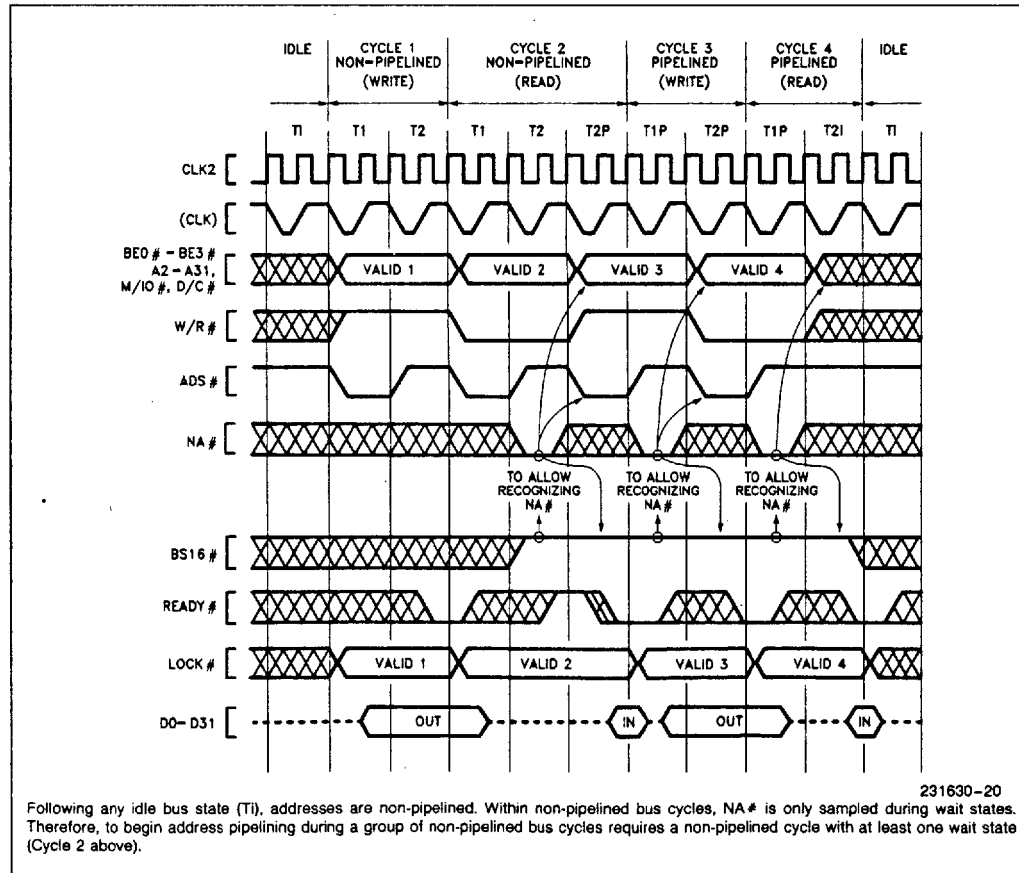
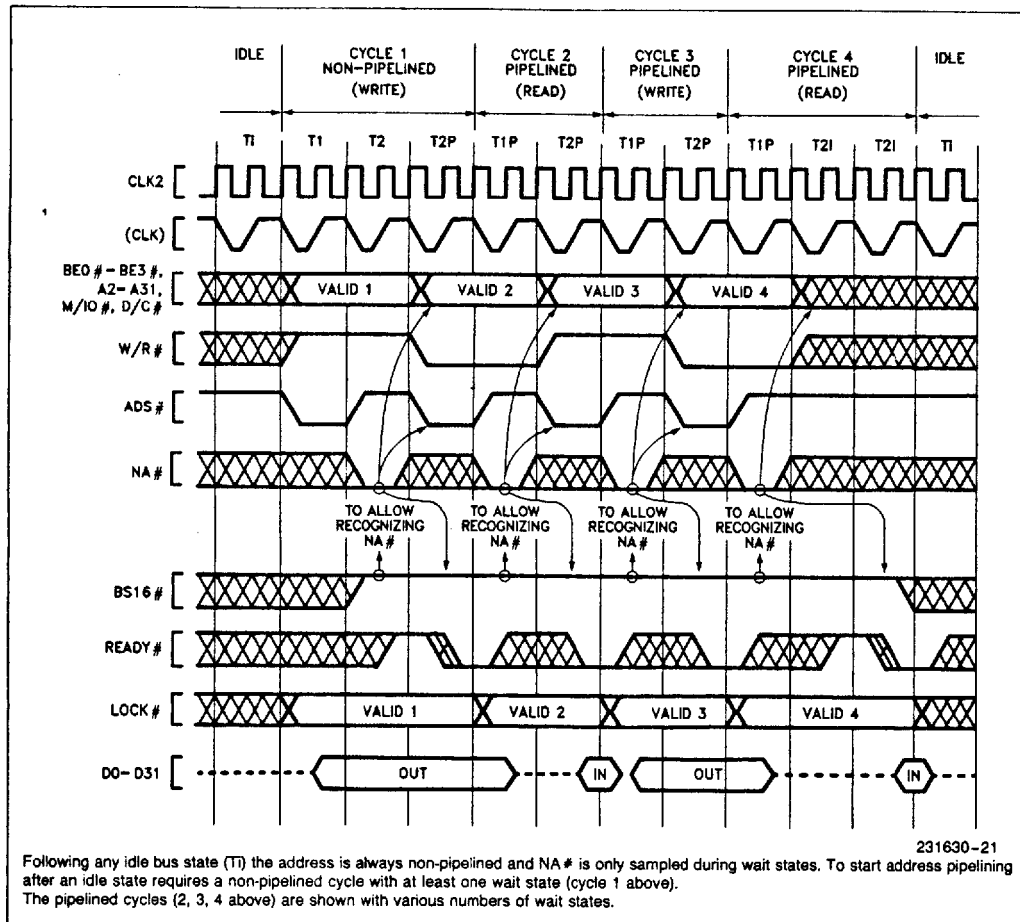
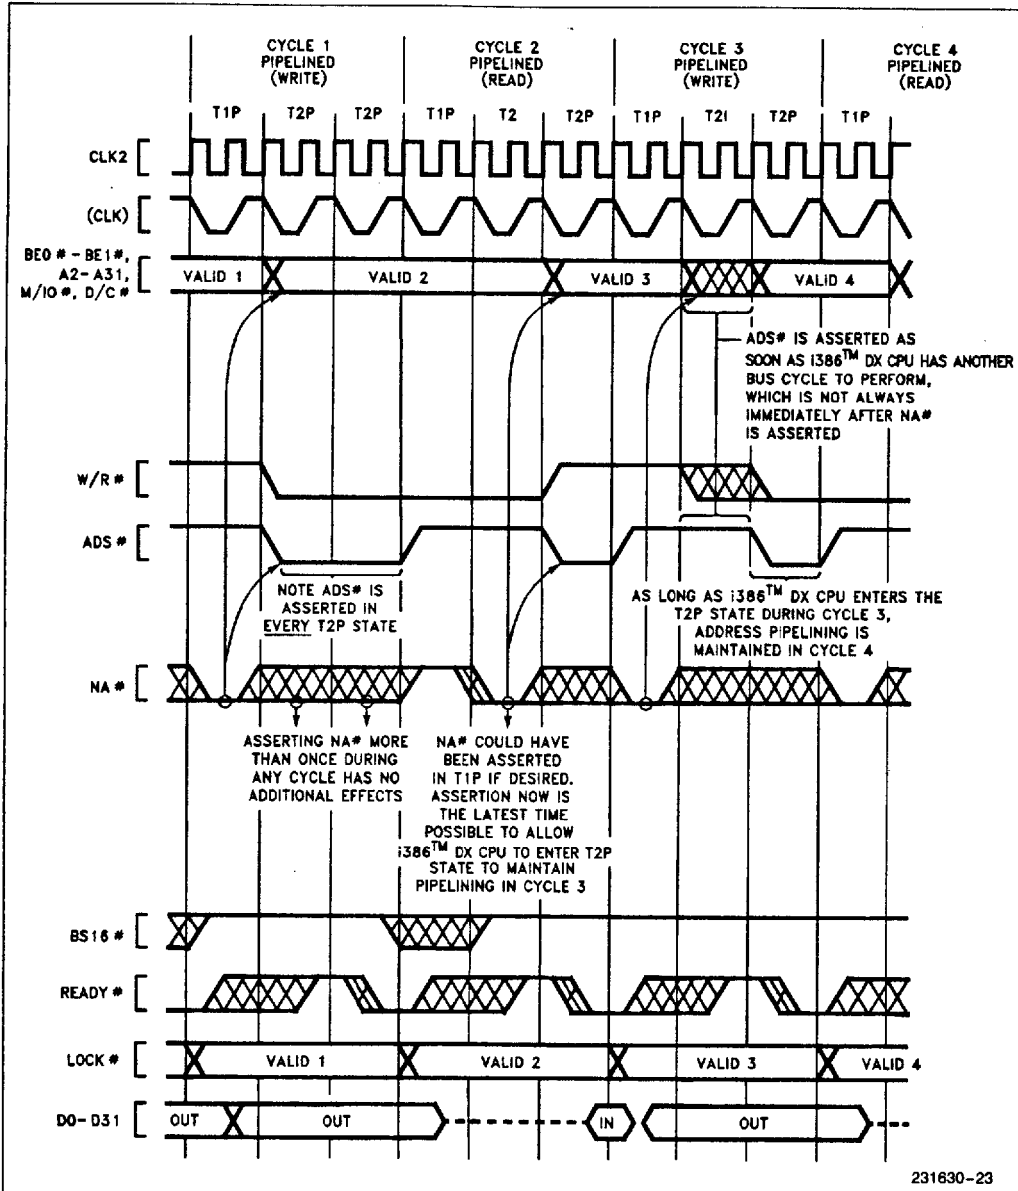

Figure 5-16. Transitioning to Pipelined Address During Burst of Bus Cycles
Figure 5-17. Fastest Transition to Pipelined Address Following Idle Bus State
Figure 5-19. Details of Address Pipelining During Cycles with Wait States
Once a bus cycle is in progress and the current address has been valid for at least one entire bus state, the NA# input is sampled at the end of every phase one until the bus cycle is acknowledged. During non-pipelined bus cycles, therefore, NA# is sampled at the end of phase one in every T2. An example is Cycle 2 in Figure 5-16, during which NA# is sampled at the end of phase one of every T2 (it was asserted once during the first T2 and has no further effect during that bus cycle).
- 1) For NA# to be sampled asserted, BS16# must be negated at that sampling window (see Figure 5-16 Cycles 2 through 4, and Figure 5-17 Cycles 1 through 4). If NA# and BS16# are both sampled asserted during the last T2 period of a bus cycle, BS16# asserted has priority. Therefore, if both are asserted, the current bus size is taken to be 16 bits and the next address is not pipelined.
- 2) The next address may appear as early as the bus state after NA# was sampled asserted (see Figures 5-16 or 5-17). In that case, state T2P is entered immediately. However, when there is not an internal bus request already pending, the next address will not be available immediately after NA# is asserted and T2I is entered instead of T2P (see Figure 5-19 Cycle 3). Provided the current bus cycle isn't yet acknowledged by READY# asserted, T2P will be entered as soon as the Intel386 DX does drive the next address. External hardware should therefore observe the ADS# output as confirmation the next address is actually being driven on the bus.
must assume the current bus size is 32 bits. Therefore if NA# is sampled asserted within a bus cycle, BS16# must be negated thereafter in that bus cycle (see Figures 5-16, 5-17, 5-19). Consequently, do not assert NA# during bus cycles which must have BS16# driven asserted. See 5.4.3.6 Dynamic Bus Sizing with Pipelined Address.
- 4) Any address which is validated by a pulse on the Intel386 DX ADS# output will remain stable on the address pins for at least two processor clock periods. The Intel386 DX cannot produce a new address more frequently than every two processor clock periods (see Figures 5-16, 5-17, 5-19).
- 5) Only the address and bus cycle definition of the very next bus cycle is available. The pipelining capability cannot look further than one bus cycle ahead (see Figure 5-19 Cycle 1).
The transition to pipelined address is shown functionally by Figure 5-17 Cycle 1. Note that Cycle 1 is used to transition into pipelined address timing for the subsequent Cycles 2, 3 and 4, which are pipelined. The NA# input is asserted at the appropriate time to select address pipelining for Cycles 2, 3 and 4.
Once a bus cycle is in progress and the current address has become valid, the NA# input is sampled at the end of every phase one, beginning with the next bus state, until the bus cycle is acknowledged. During Figure 5-17 Cycle 1 therefore, sampling begins in T2. Once NA# is sampled asserted during the current cycle, the Intel386 DX is free to drive a new address and bus cycle definition on the bus as early as the next bus state. In Figure 5-16 Cycle 1 for example, the next address is driven during state T2P. Thus Cycle 1 makes the transition to pipelined address timing, since it begins with T1 but ends with T2P. Because the address for Cycle 2 is available before Cycle 2 begins, Cycle 2 is called a pipelined bus cycle, and it begins with T1P. Cycle 2 begins as soon as READY# asserted terminates Cycle 1.
Example transition bus cycles are Figure 5-17 Cycle 1 and Figure 5-16 Cycle 2. Figure 5-17 shows transition during the very first cycle after an idle bus state, which is the fastest possible transition into address pipelining. Figure 5-16 Cycle 2 shows a transition cycle occurring during a burst of bus cycles. In any case, a transition cycle is the same whenever it occurs: it consists at least of T1, T2 (you assert NA# at that time), and T2P (provided the Intel386 DX has an internal bus request already pending, which it almost always has). T2P states are repeated if wait states are added to the cycle.
Note three states (T1, T2 and T2P) are only required in a bus cycle performing a transition from non-pipelined address into pipelined address timing, for example Figure 5-17 Cycle 1. Figure 5-17 Cycles 2, 3 and 4 show that address pipelining can be maintained with two-state bus cycles consisting only of T1P and T2P.
Once a pipelined bus cycle is in progress, pipelined timing is maintained for the next cycle by asserting NA# and detecting that the Intel386 DX enters T2P during the current bus cycle. The current bus cycle must end in state T2P for pipelining to be maintained in the next cycle. T2P is identified by the assertion of ADS#. Figures 5-16 and 5-17 however, each show pipelining ending after Cycle 4 because Cycle 4 ends in T2I. This indicates the Intel386 DX didn't have an internal bus request prior to the acknowledgement of Cycle 4. If a cycle ends with a T2 or T2I, the next cycle will not be pipelined.